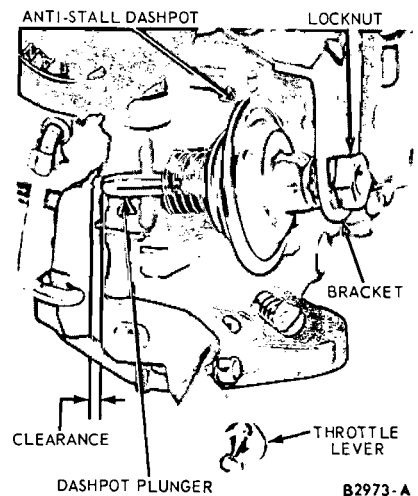

FIG. 25—Anti Stall Dashpot Adjustments—Carter Model YF 1-V
On the Carter Model YF 1-V turn the idle mixture screw (Fig. 25) inward until the engine rpm begins to drop, due to the lean mixture. Turn the idle mixture screw outward until the rpm increases and begins to drop.
2. Loosen the anti-stall dashpot lock nut (Fig. 25).